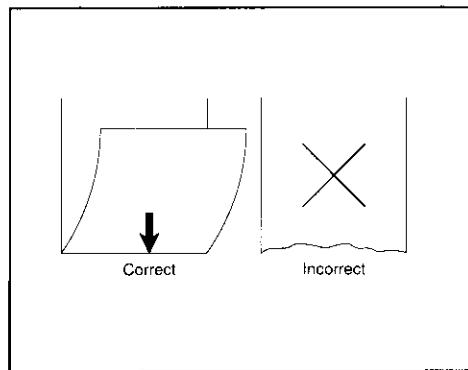
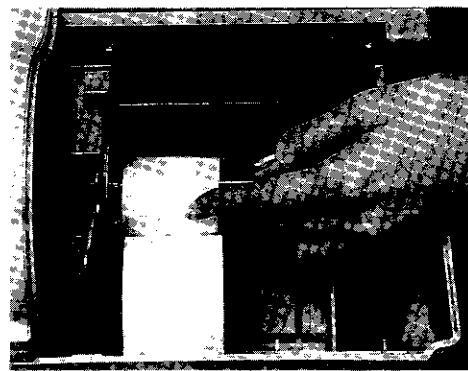

Fig. 1-4.
Fig. 1-6.
2. Fold the end of the paper (Fig. 1-4) and insert the paper into the paper inlet (Fig. 1-3), and press the Receipt Feed key until approximately 20cm of paper are fed from the outlet.
2. Fold the end of the paper (Fig. 1-4) and insert the paper into the paper inlet (Fig. 1-6), and press the Journal Feed key until approximately 20cm of paper are fed from the outlet.